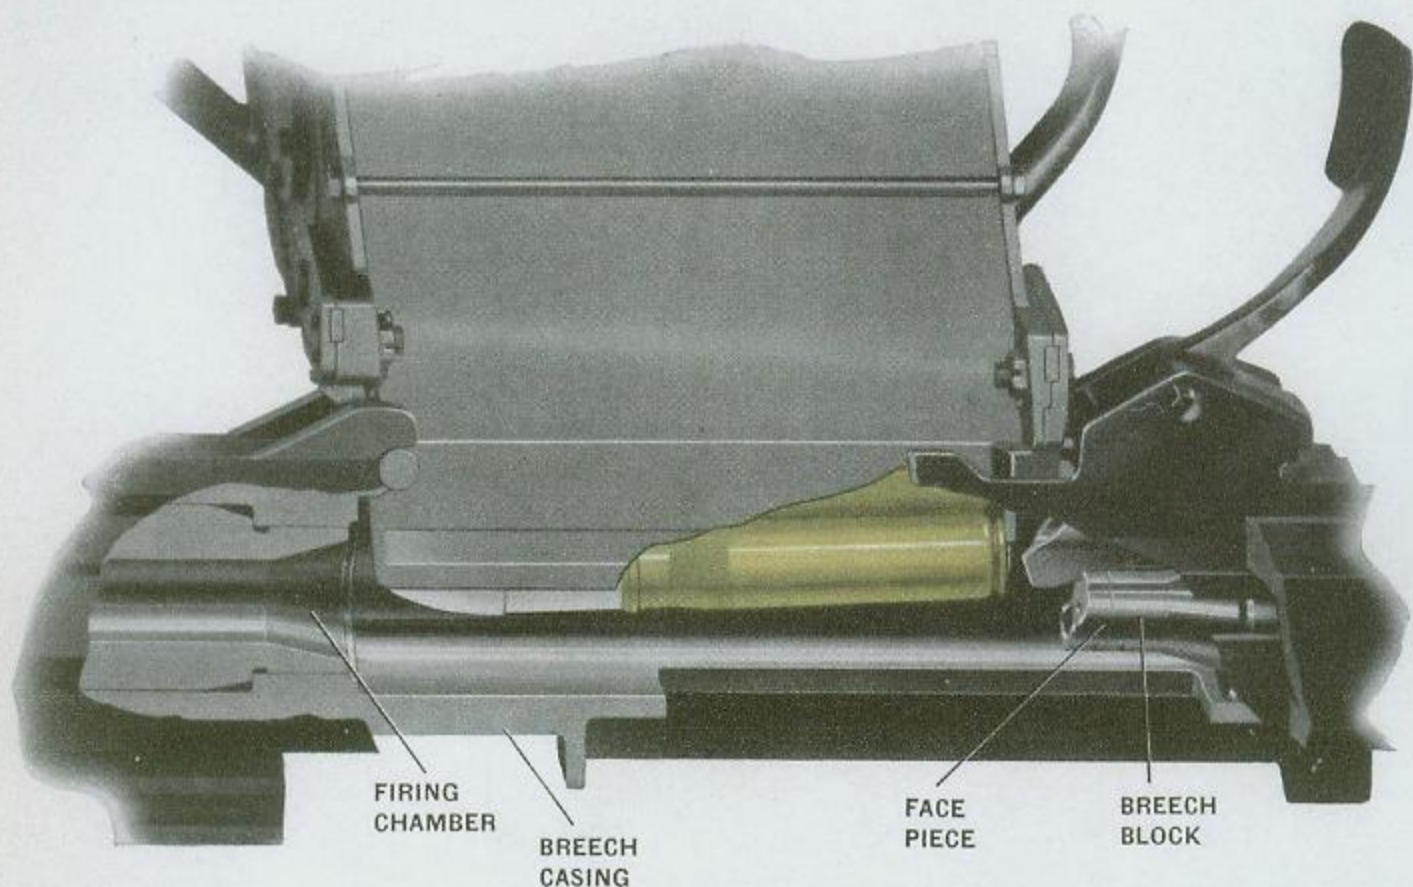

Figure 3—Loading Mechanism in cocked position. Breech block in position to pick up cartridge when trigger is released
(D). Preparatory to opening fire, the breech block must be pulled back, see Figure 3 and gun assembly Plate 1, until, the sear (OE-1317) is held by the trigger hook (OE-1216). This compresses the barrel springs (OE-1320 and 1321) and causes a pull on the recoiling parts being held in the cocked position by the trigger hook.
(K). Whenever pressure on the trigger is released, the breech block is caught on the next attempt to commence its counterrecoil and is held in the cocked position. See Figure 3. This happens in all cases when there is ammunition in the magazine. In case the pressure on the trigger is maintained and the magazine becomes empty then the trigger mechanism is returned automatically to the cocked position regardless of the position of the trigger. See Figure 24.